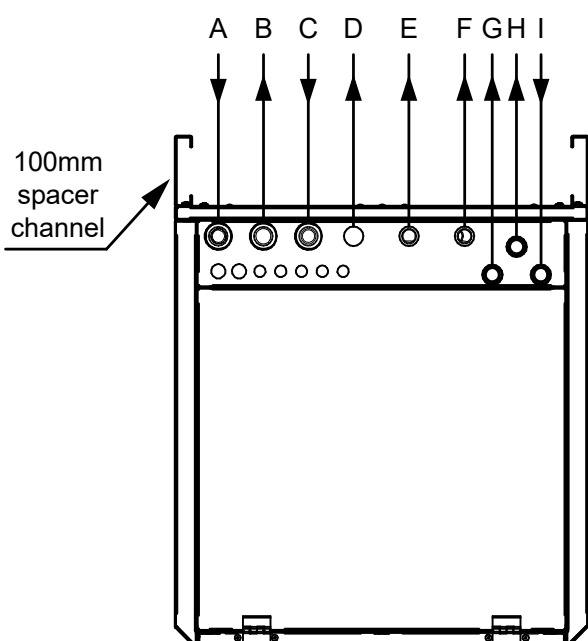

Figure 3-1: Cylinder connections
All primary circuit pipework connections to the cylinder MUST be made in accordance with Figure 3-1. Refer to Section 3 (Primary Circuit Installation).
Table 3-1: Key to Figure 3-1
Make the primary circuit and heat pump connections to the cylinder as follows (refer to Figure 3-1):
2. If the 100mm spacers supplied with the cylinder (see Figure 3-1) are to be fitted, fit them before manoeuvring the cylinder into its final position. To do this:
4. The primary flow connection from the heat pump should be made to cylinder connection C (refer to Figure 3-1 and Table 3-1). To do this:
- Remove one of the 28mm straight compression couplers from the accessories pack supplied with the cylinder and make the connection to primary circuit connection C of the cylinder (see Figure 3-1).
5. The primary return connection to the heat pump should be made to cylinder connection B (refer to Figure 3-1 and Table 3-1). To do this:
- Remove one of the 28mm straight compression couplers from the accessories pack supplied with the cylinder and make the connection to primary circuit connection B of the cylinder (see Figure 3-1).
6. The primary flow to heating zone 1 should be made to cylinder connection F (refer to Figure 3-1 and Table 3-1). To do this:
- Remove one of the 22mm straight compression couplers from the accessories pack supplied with the cylinder and make the connection to primary circuit connection F of the cylinder (see Figure 3-1).
7. The primary flow to heating zone 2 should be made to cylinder connection E (refer to Figure 3-1 and Table 3-1).
- Remove one of the 22mm straight compression couplers from the accessories pack supplied with the cylinder and make the connection to primary circuit connection E of the cylinder (see Figure 3-1).
8. If required, the primary flow to heating zone 3 should be made to cylinder connection D (refer to Figure 3-1 and Table 3-1). To do this:
9. The return from the heating circuits should be connected to cylinder connection A (refer to Figure 3-1 and Table 3-1).
- Remove one of the 28mm straight compression couplers from the accessories pack supplied with the cylinder and make the connection to primary circuit connection A of the cylinder (see Figure 3-1).